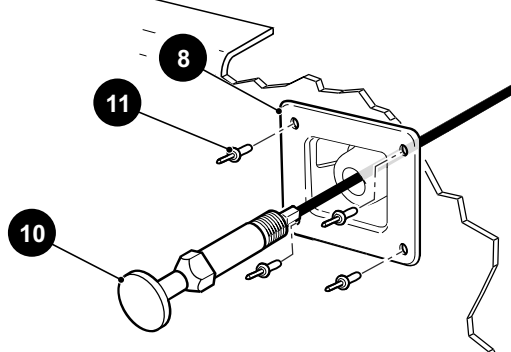
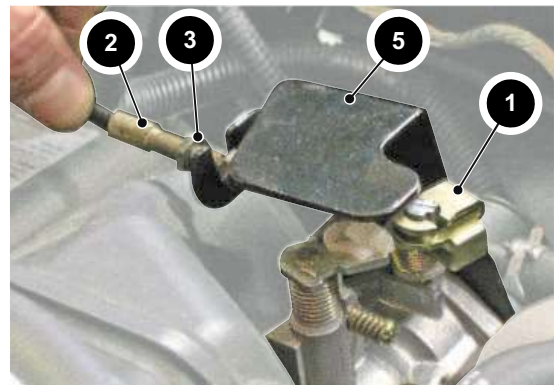

Figure 6 Choke Cable Attachment
Figure 7 Choke Cable and Housing
Pull the choke knob (10) out to operate the choke (Figure 6). Check that the cable operates smoothly and that the cable returns when the knob is released. The motion should be smooth throughout the operating range. If there is any binding or sharp bends, the choke cable assembly must be replaced.
For vehicles manufactured until January 2, 2016: To remove the choke adapter (8), drill out the four rivets (11). To install the new choke adapter (8), install the barrel clips (7) on to the four sides of the cutout provided on the front of rear body and install the new choke adapter (8) using the screws (9) as shown (Figure 6).
Loosen the nuts (3) that secure the choke cable to the choke cable bracket (5) (Figure 6) (Figure 7). Lift the choke cable and housing (2) clear of the bracket and position it so that the bullet end of the choke cable can be removed from the carburetor choke plate (1).
At the seat panel, remove the nut (6) securing the outer cable to the bezel (8). Slide the nut, off the end of the choke cable and pull the choke cable out through the seat wrap. Remove the choke cable bezel (8) from the seat panel (Figure 6).
Feed the choke cable assembly (4) through the hole in the bezel (8) (Figure 6). Insert the cable and bezel into the seat panel and through the air cleaner intake and install the bezel (8) and nut (6) finger tight. Slide the threaded portion of the housing through the carburetor mounted bracket (5) and attach the nuts (3) to the choke cable housing finger tight. Insert the choke cable bullet into the choke arm (1) hole and release. Make sure that the choke and choke knob are both in the open position.